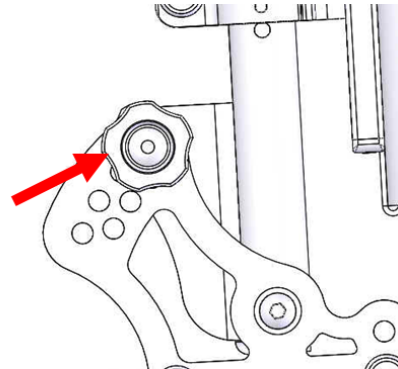

Figure 5-101
5.3.7.6 Remove nuts and knobs. Adjust the backrest angle to accommodate the user's needs. (Figure 5-101). Re-tighten all nuts and knobs